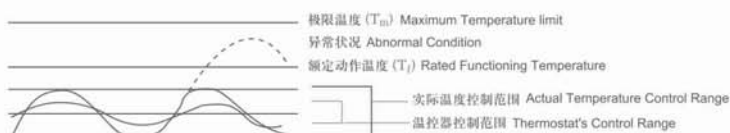

图 1 Fig.1
- 应用产品必须经过测试以确定当出现任何异常状况时都不会使温度保险丝周围温度超过极限温度 (Tm)，这种状况可能出现在一种称为“余热过冲”的状况下。例如：一个热风机在进风口或出风口堵塞时引起温度升高到 Tf，这时温度保险丝断开电路，但是，一个不正确的设计可能会引起装置提前开路 and 过度的余热过冲可能会损伤保险丝，应用产品须经测试以确定在正常的温度波动状态（如温控器的动作与复位引起的加热器温度波动）下，温度保险丝周围温度在温控器的通断循环中不会达到 Tm。（见图 1）
- The end product should be tested to ensure that potentially abnormal conditions do not exposed the thermal cutoff to the temperature exceeding its Tm. This condition may occur in an "overshoot" situation. For example, an air heater may be subjected to a blocked inlet or outlet condition on attaining its Rated functioning temperature, the thermal cutoff will open. However, an incorrect design may cause the premature opening of the device and excess overshoot may cause shooting or damage to the thermal cutoff. The end product should be tested to ensure that under normal cycling condition (such as cycling of a thermostat), the thermal cutoff never reaches its Tf during the "on" or "off" cycle. (see Fig.1)